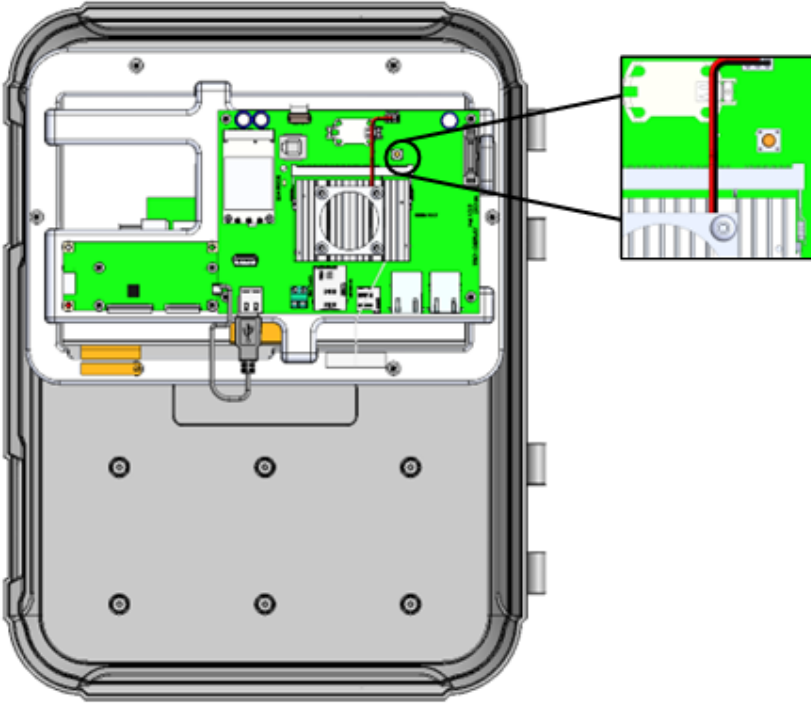

Figure 8: CPU Reset Button
- To reset the CPU and the user interface, press the button shown in Figure 8: CPU Reset Button.